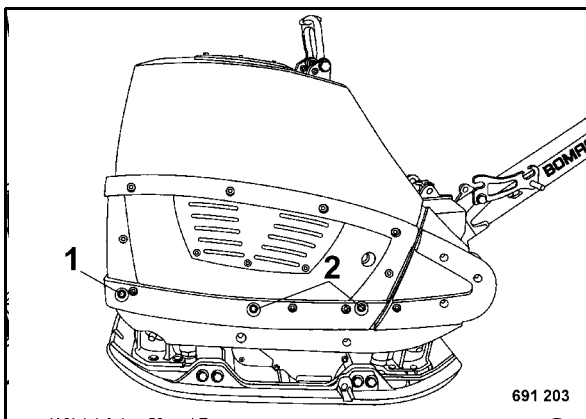

Fig. 45
- Loosen the hood fasteners (1) on both sides and remove the fasteners (2) from both sides (Fig. 45).